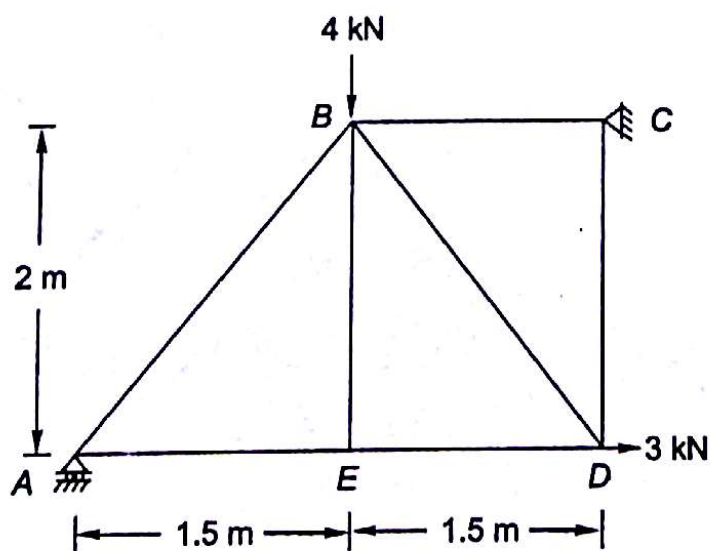

Fig. 4.44
- 4.15 A truss $ABCDE$, hinged at end C , roller supported at A is subjected to forces of 4 kN at B and 3 kN at D . Calculate support reactions. Then determine how many zero force members exist in the truss (Fig. 4.44)?